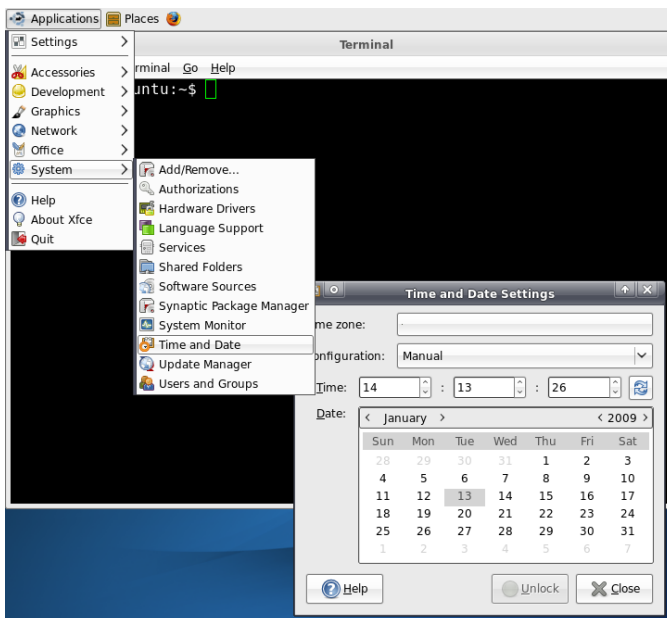

Figure 35: Adjusting the time zone
**Setting the time zone** takes place via a control panel of the system configuration which is as well directly callable from the start menu: "*Applications -> System -> Time and Date*" (see Figure 35). Since changing the time zone is an administrative activity, the dialog must first be released by using pushbutton "*Unlock*" (also see Figure 35). Therefore, the administrator password will be asked analog to the console command "*sudo*". By default, **password "vmware"** must be entered (also compare Table 9 in section 6.4). Afterwards, the capital and the corresponding time zone can be chosen via path "*Time zone*".